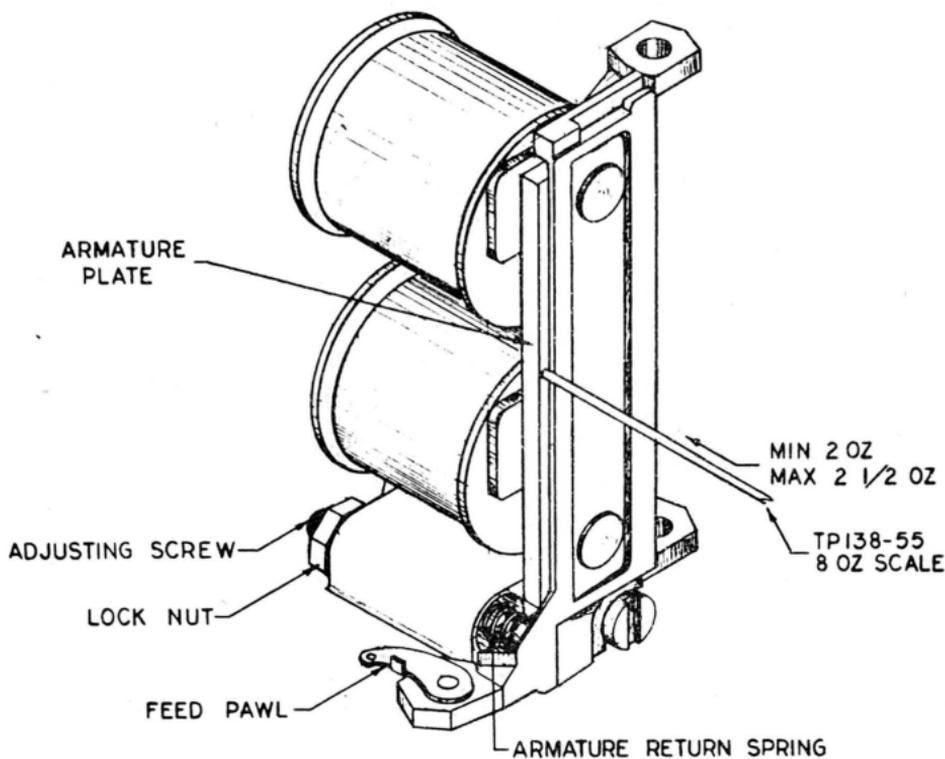

FIG 1
2.02 Using a TP 138-55 8 oz. scale applied to the midpoint of the armature's leading edge as shown in Fig. 1, the adjusting screw shall be tightened until it requires a min. of 2 oz. to max. of 2 1/2 oz. to just move the armature. Do not apply enough pressure to move the numbers wheel. This will be adequate to ensure positive action.